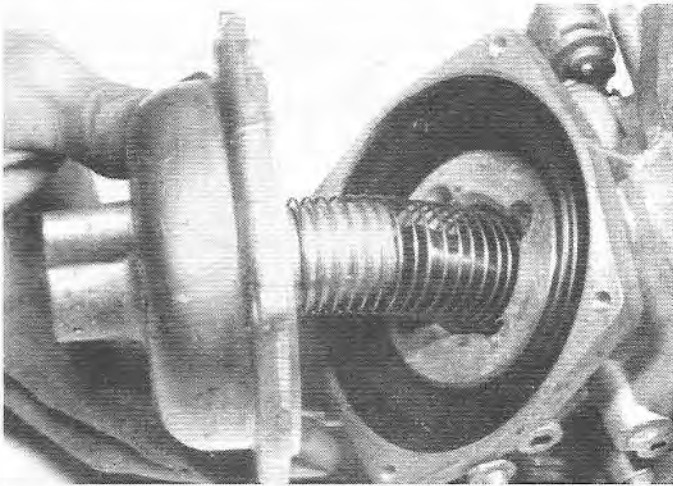

Fig. 4.24 Suction chamber cover on a Stromberg carburetor
- 2 Examine all diaphragms (accelerator pump, automatic choke, full power valve, etc.) for fractures and renew them if necessary (refer to Fig. 4.24 through 4.27). If the full power valve diaphragm requires renewal, it will be necessary to obtain the complete valve assembly. If the accelerator pump diaphragm requires renewal, the return spring should be renewed at the same time.